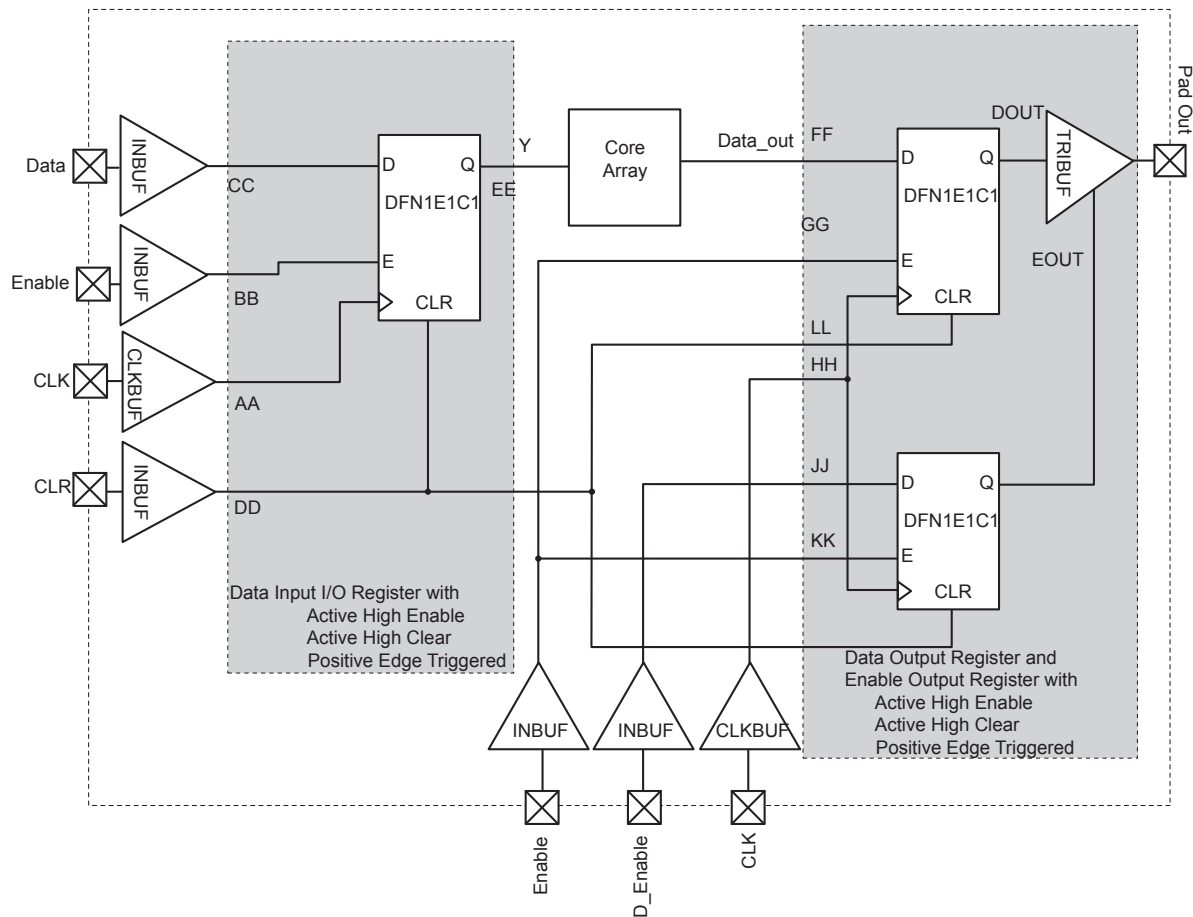

**Figure 2-138 • Timing Model of the Registered I/O Buffers with Synchronous Enable and Asynchronous Clear**
*Note:* \*See Figure 2-138 on page 2-214 for more information.